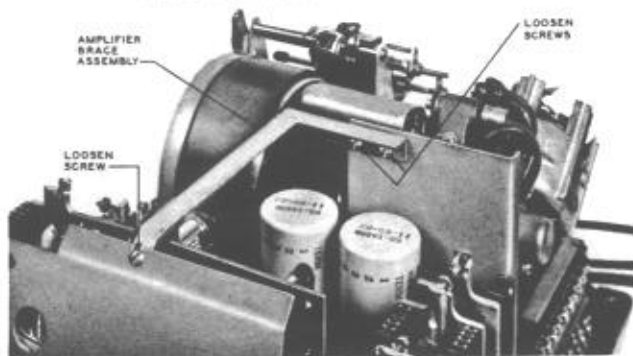

Fig. 3 — Amplifier Brace Assembly, Standard Sets
2. For standard and early type sets, loosen the screws shown in Fig. 3 and remove the amplifier brace assembly.